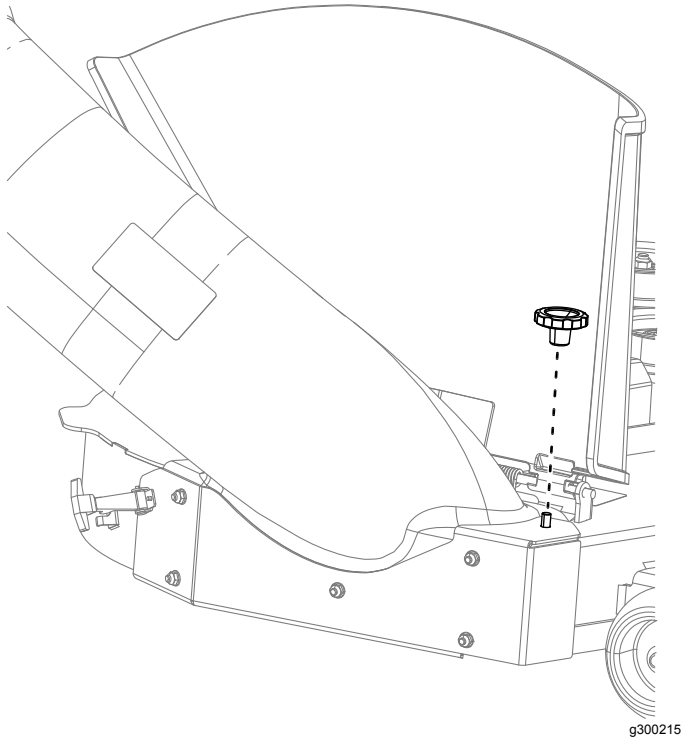

Figure 19
2. Install the new bagging cutoff baffle to the mower deck at the same location in the mower deck as the previously removed baffle (Figure 19).
5. Install the front baffle to the front of the mower deck using a nut (5/16 inch) and a carriage bolt as shown in Figure 19.
6. Secure the chute to the mower deck with the hand knob (Figure 19).
7. Hand tighten the knob to secure the chute to the mower deck (Figure 19).